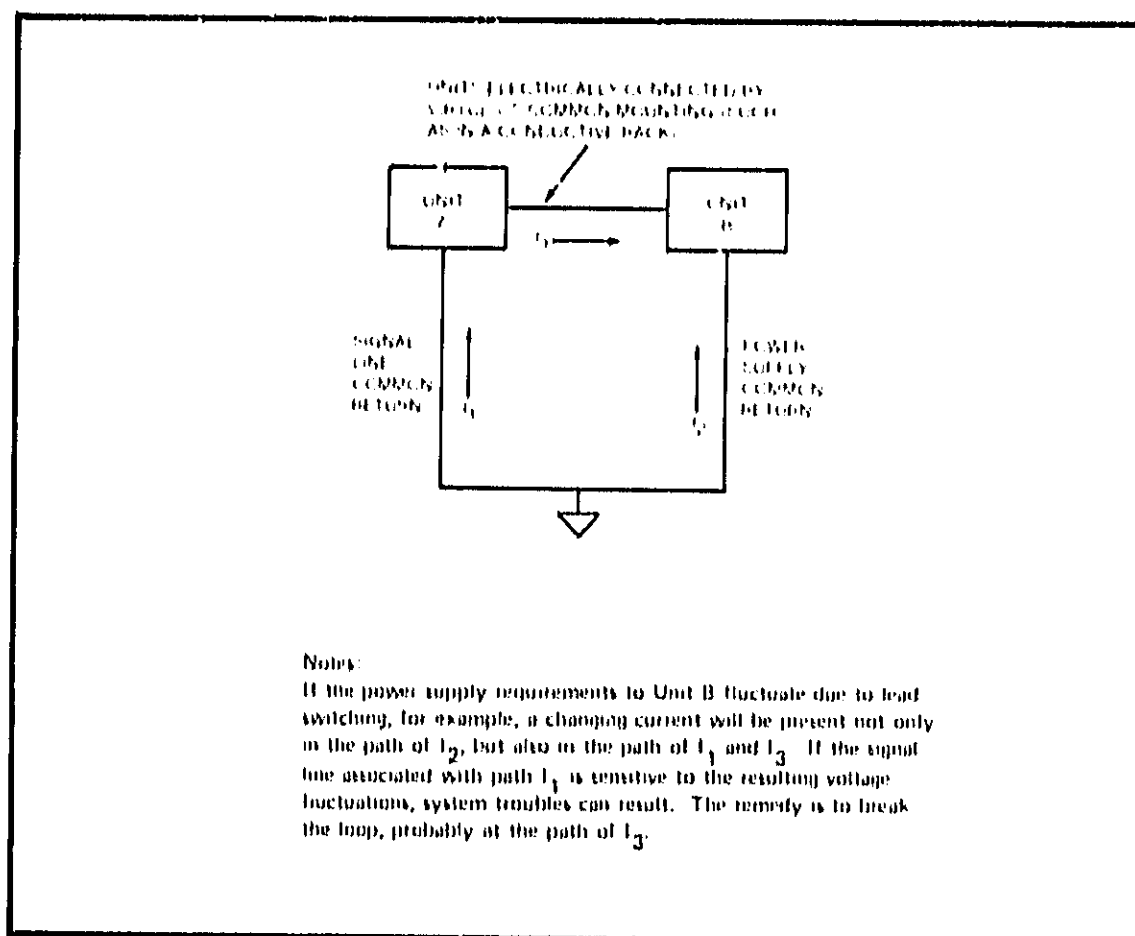

Figure 5-2. Grounding to Avoid Ground Loops
- b. The system electronics can become very sensitive to external noise (such as power line switching transients) due to undesirable currents flowing through ground wiring. These currents cause a voltage potential other than zero volts to exist at points in the grounding system. (See Figure 5-2).